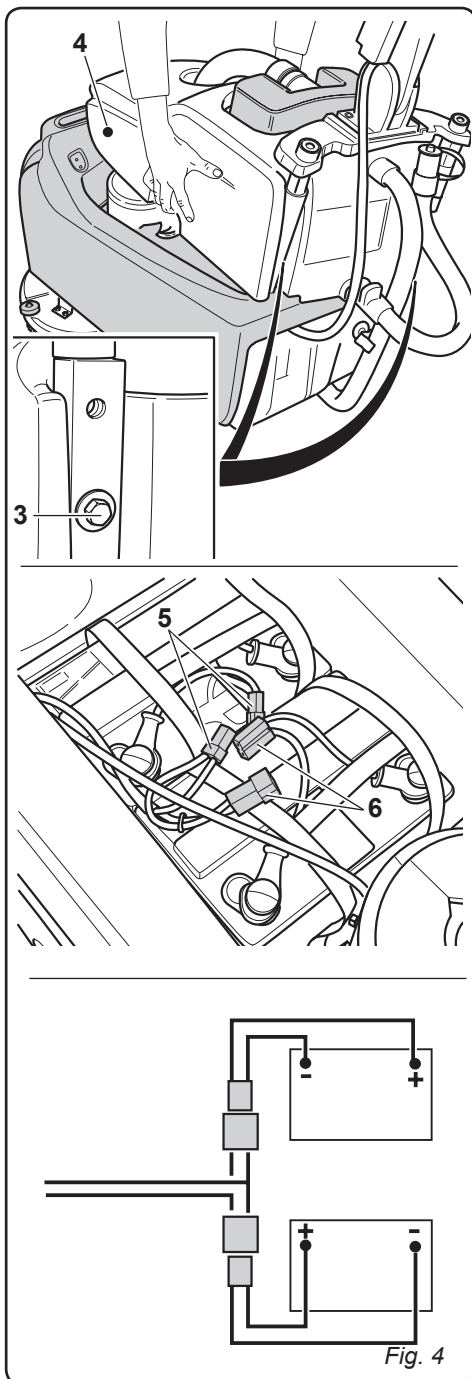

Fig. 4
3.1.b - Connecting the batteries (for CB version only) (Fig. 4)
- Unscrew the bolts (3) that fasten the tank (4) to the handle support.
- Remove the recovery water tank (4) and connect the battery connectors (5 and 6).
- Replace the recovery water tank (4).